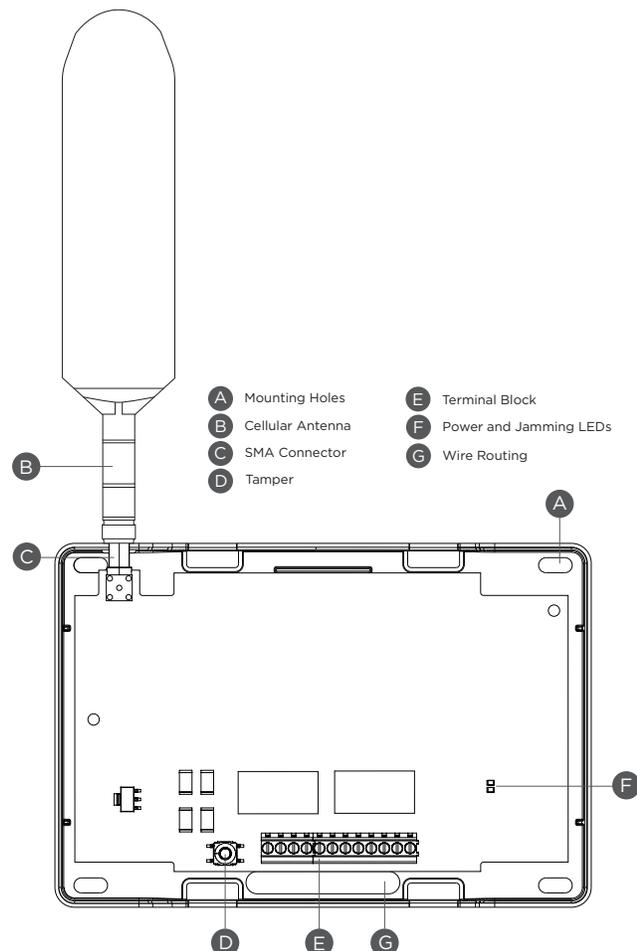

Figure 2: System Components
The module should be mounted to a wall using the included #6 screws in the mounting holes. See Figure 2. Mount the module in a secure, dry place to protect the module from damage due to tampering or the elements. It is not necessary to remove the PCB when installing the module.
1. Place the antenna onto the SMA connector. Refer to *Figure 2*.